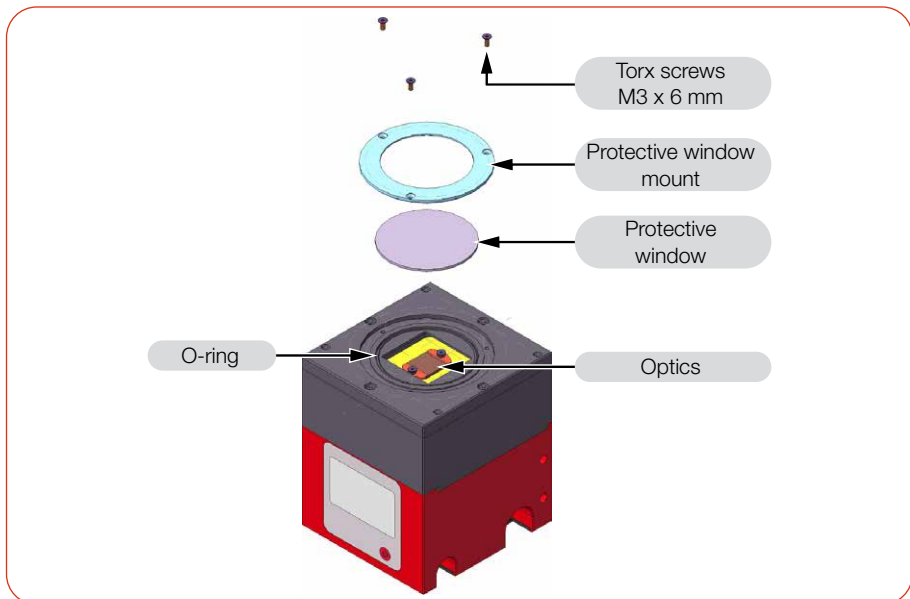

Fig. 12.1: Exchanging the protective window
5. Place the device as shown in Fig. 12.1 on page 62 and carefully remove the protective window holder upwards.
9. Place the protective window mount according to Fig. 12.1 on page 62.